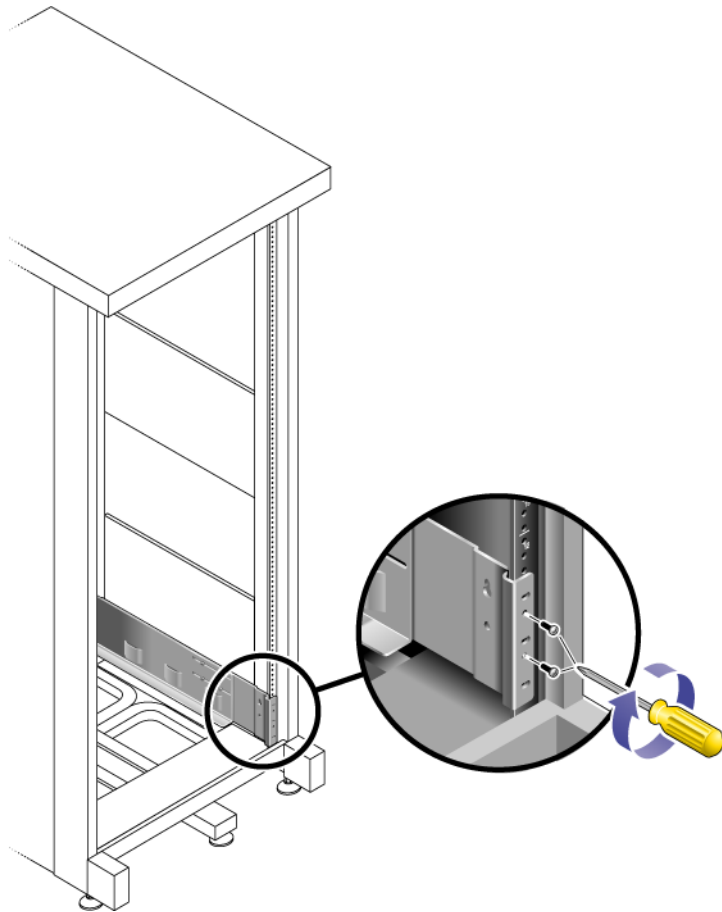

FIGURE 2-5 Securing the Left Rail to the Back of the Cabinet
6. Use the No. 3 Phillips screwdriver to insert and tighten four metric M6 screws (two per side) at the back of the rail (FIGURE 2-5).